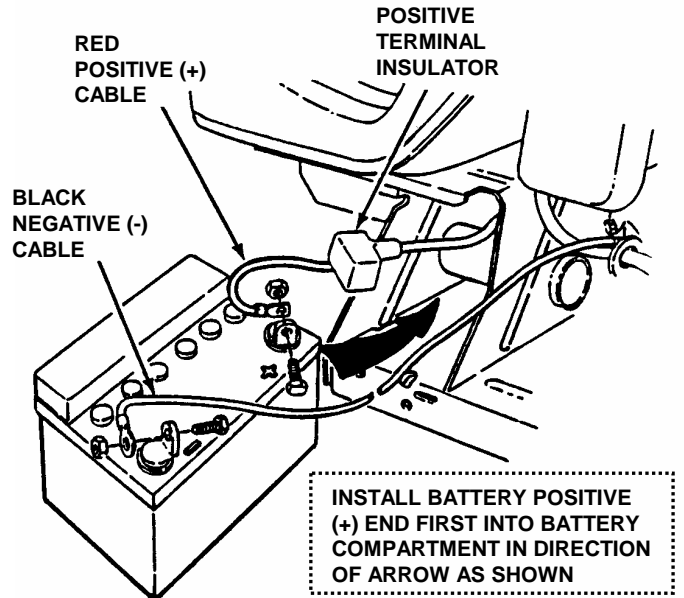

FIGURE 4.17
3. Observe and note cable positions on battery. See Figure 4.17.
Cables must be connected to battery terminals in the proper position as show in Figure 4.17. DO NOT attempt to charge battery while installed on the Rear Engine Rider. DO NOT use "BOOST" chargers on the battery.